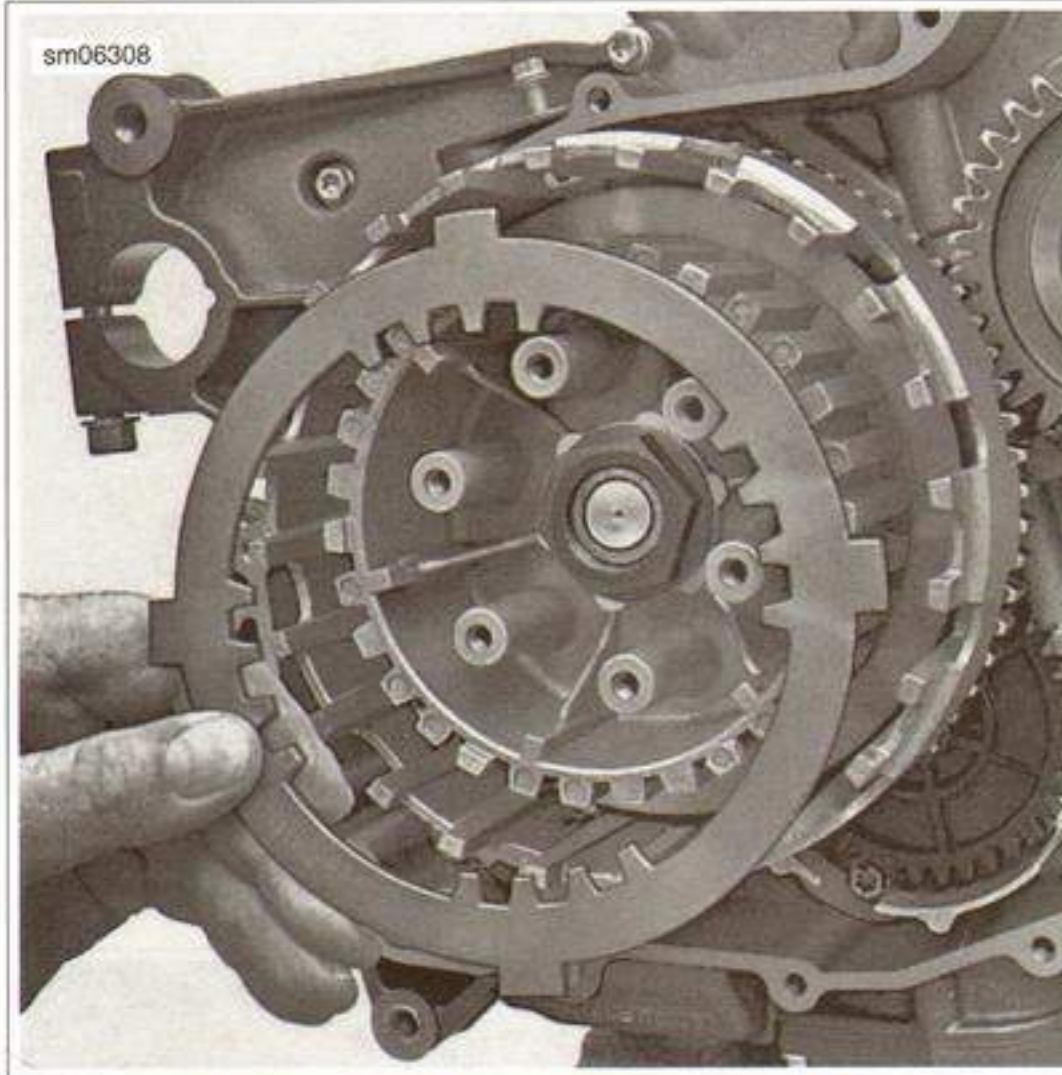

Figure 6-50. Clutch Hub Locking Tool
2. See Figure 6-50. Use the CLUTCH HUB LOCKING TOOL (Part No. B-48859) to lock the clutch hub to the clutch drum.